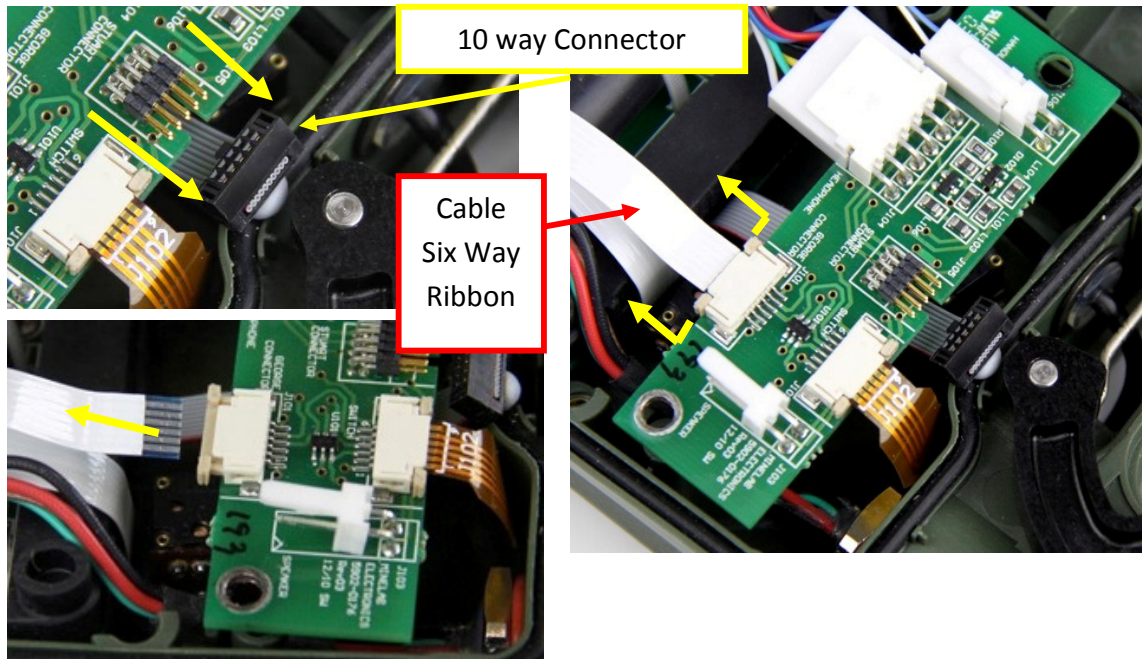

Figure 35: 10 Way Connector and Six Way Ribbon Cable
- Disconnect the 10 way connector from the interface PCB (Figure 35).